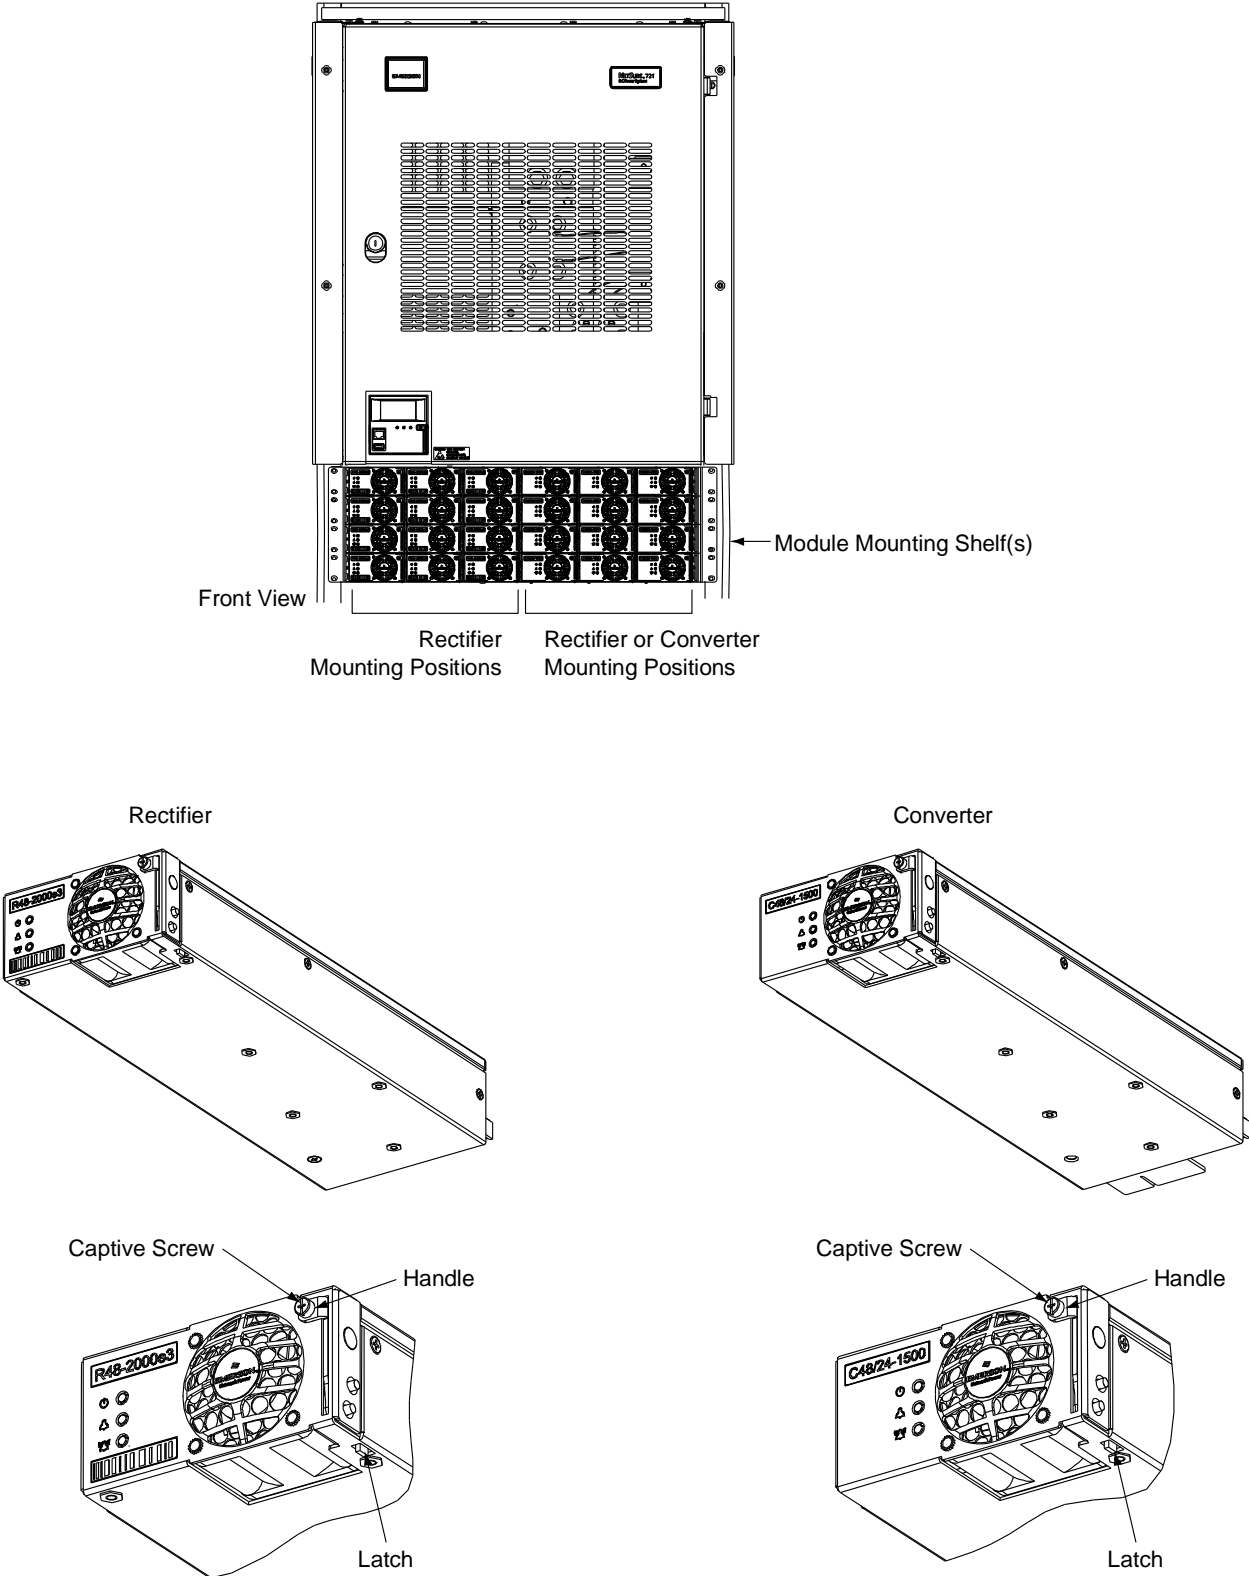

Figure 3-1
Rectifiers modules can be installed in any mounting position of each module mounting shelf. Converters modules can be installed in any of the three far right mounting positions of each module mounting shelf (as viewed from the front). See Figure 3-1.
Note: *Each rectifier and converter module locks into the module mounting shelf by means of a latch located on the bottom of the module. The latch and module handle are interactive. Pushing the handle up into the module's front panel causes the latch to extend to the locking position; pulling the handle down out from the module's front panel causes the latch to retract. See Figure 3-1.*
- 3) Place the module into an unoccupied mounting position without sliding it in completely. Rectifiers modules can be installed in any mounting position of each module mounting shelf. Converters modules can be installed in any of the three far right mounting positions of each module mounting shelf (as viewed from the front). See Figure 3-1.
- 4) Loosen the captive screw on the module's handle. Pull the handle down out from the module's front panel (this will also retract the latch mechanism). See Figure 3-1.